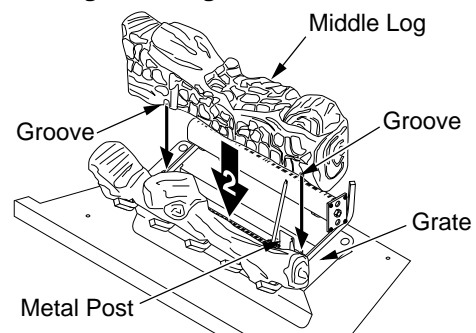

Figure 30 - Installing Middle Log
2. Rest middle log behind metal posts on grate assembly. Make sure the grooves in the bottom of the log fit over the grate. Bring the log forward next to the metal posts (see Figure 30).